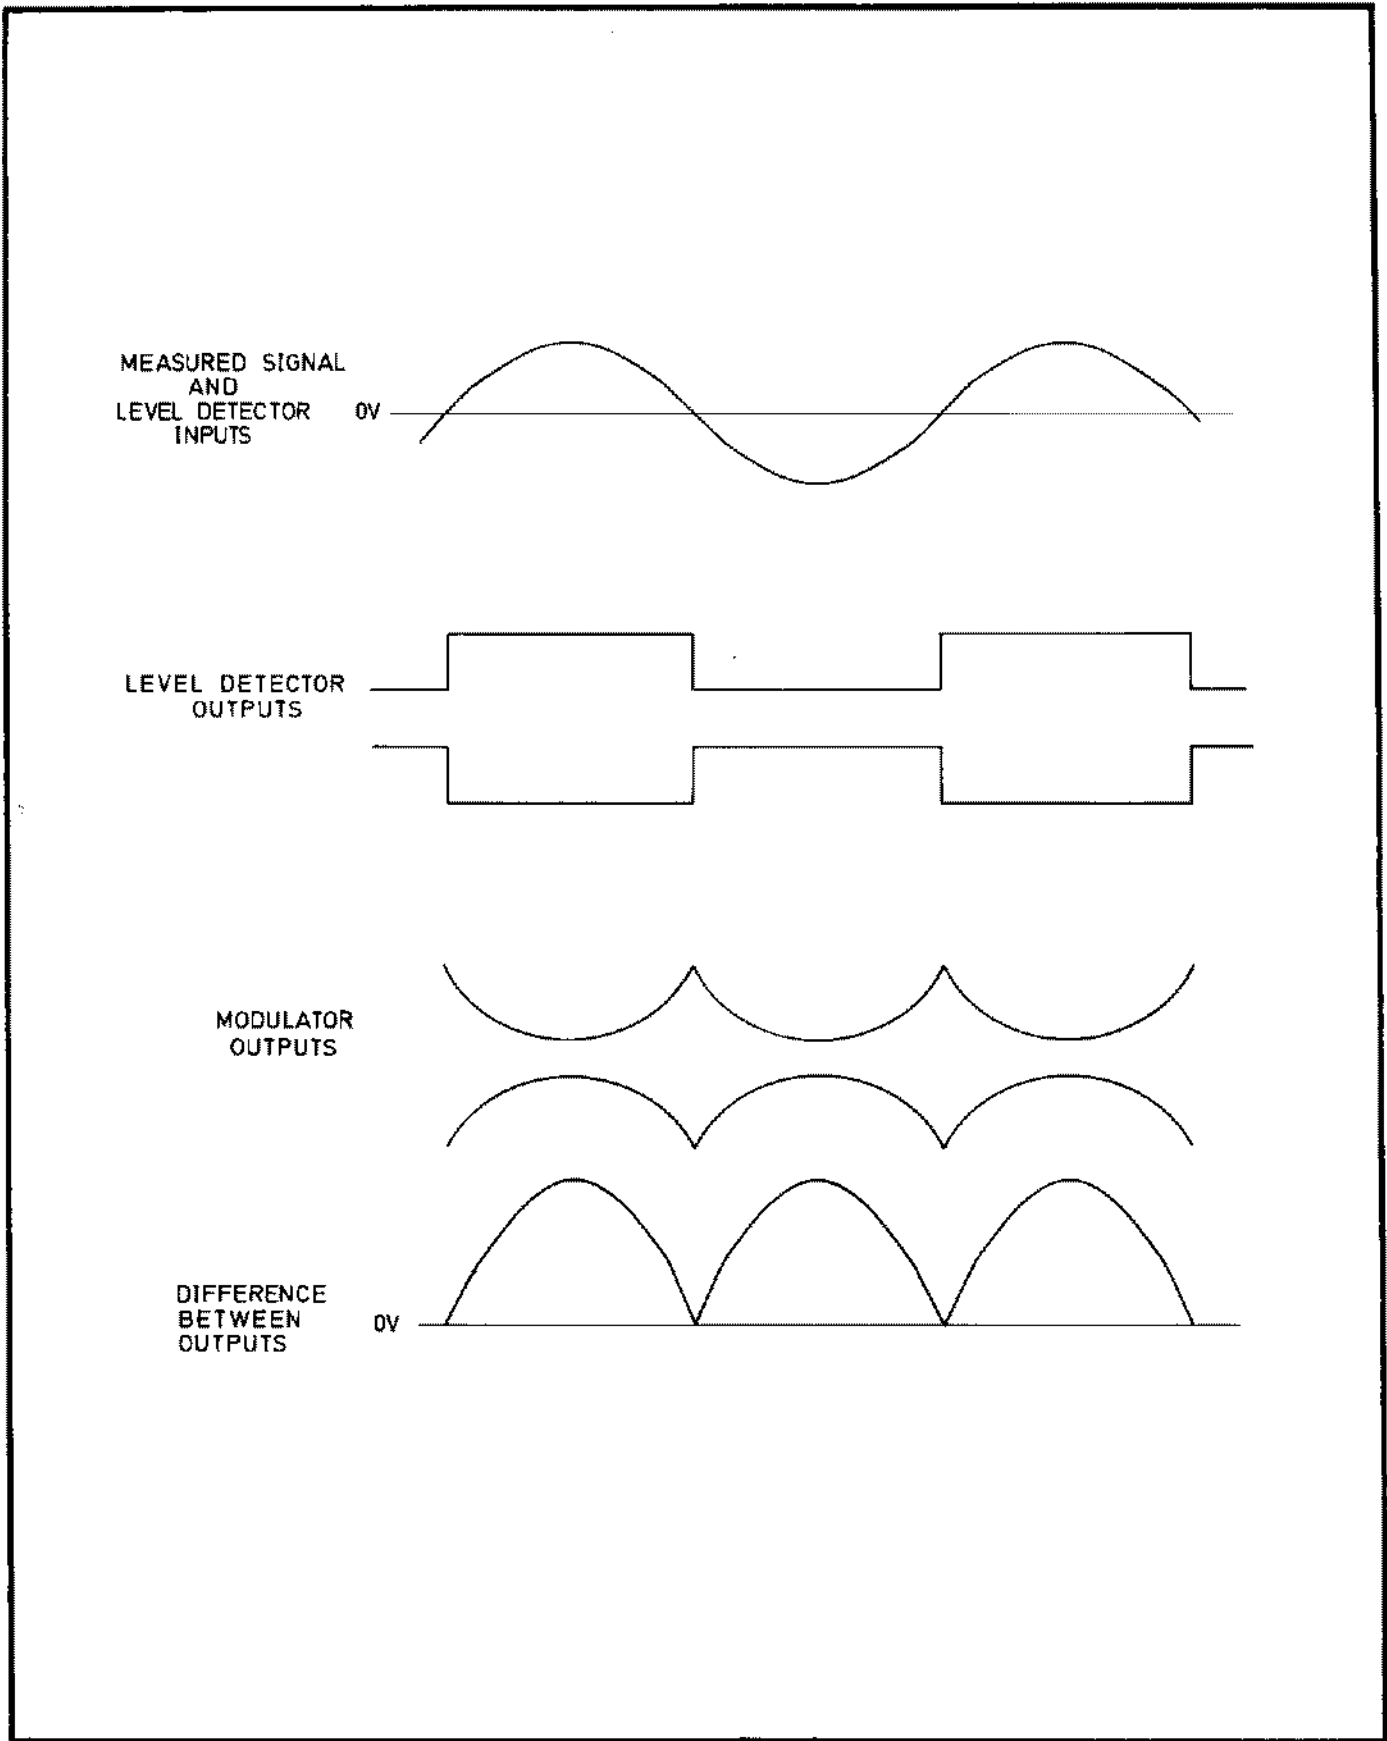
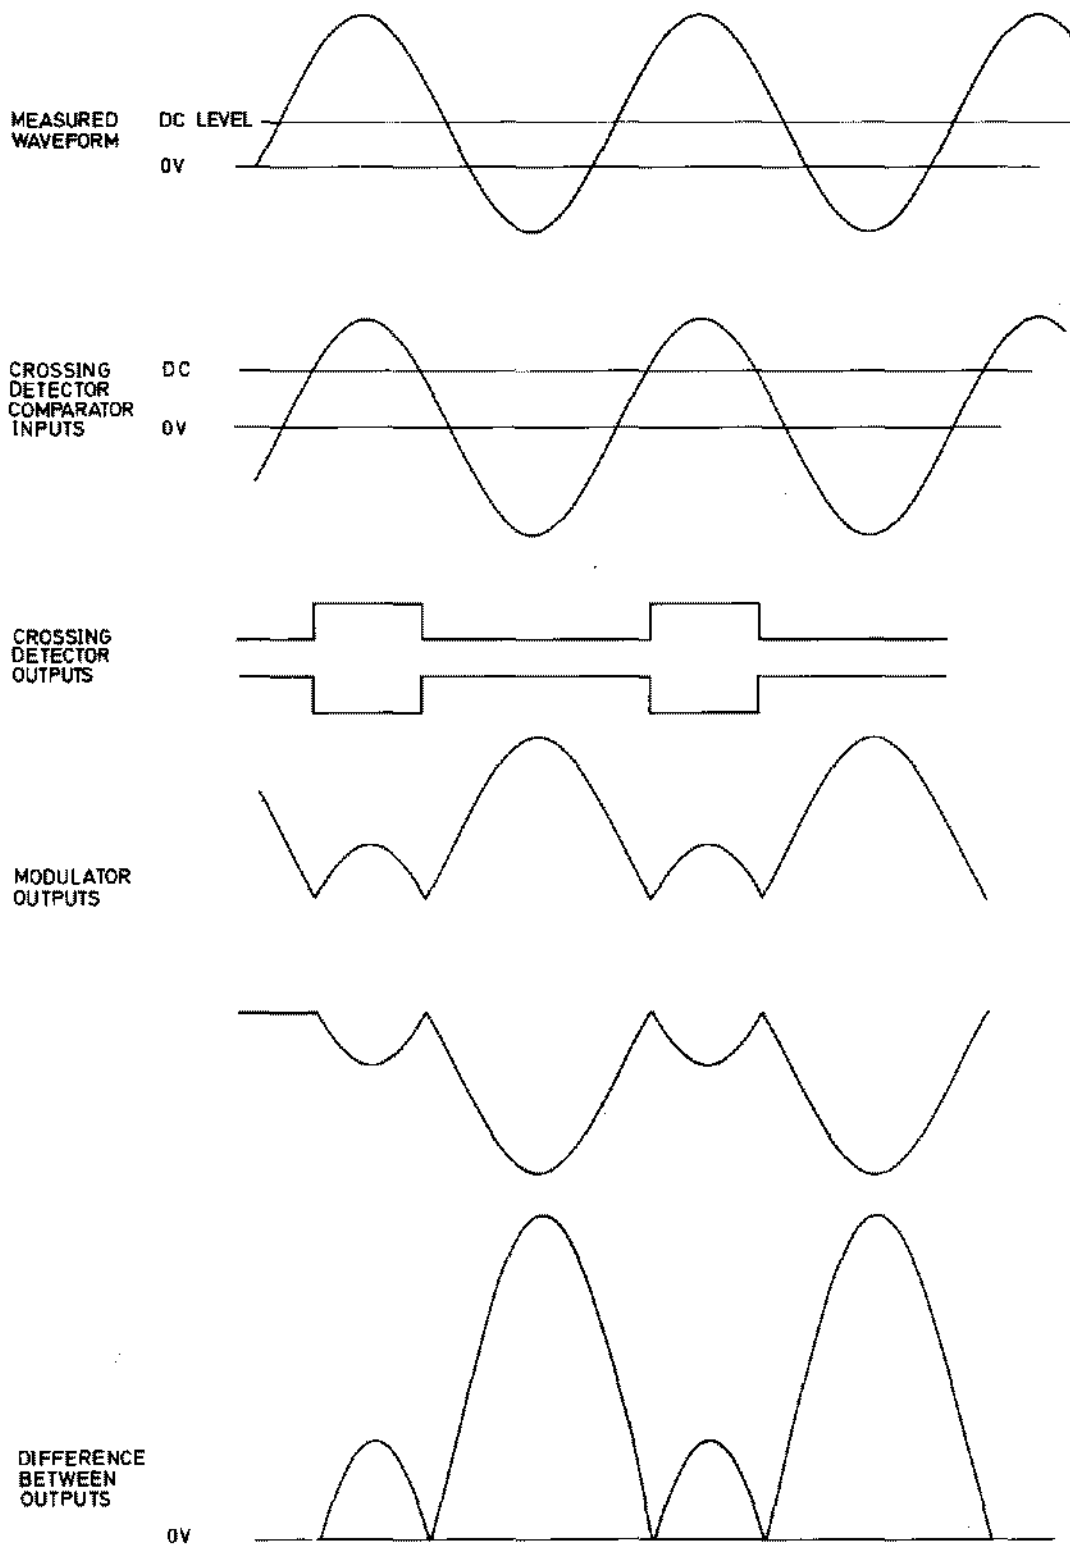

Fig. 5.7 Mean Detector Operation, AC
Fig. 5.8 Mean Detector Operation, AC + DC
5.3.1.14.2 The detector incorporates the balanced modulator, IC9. This switches the detector input signals, applied at IC9/1 and IC9/4, between the differential outputs, IC9/6 and IC9/9. The voltages at IC9/6 and IC9/9 are filtered, to obtain the mean values, and the outputs are combined in the differential input amplifier IC10. The action of the circuit with an AC input only is shown in Fig. 5.7. The action with both AC and DC inputs is shown in Fig. 5.8. The waveforms take no account of the filtering action of C20 and C22, and cannot be observed at TP18 and TP22.